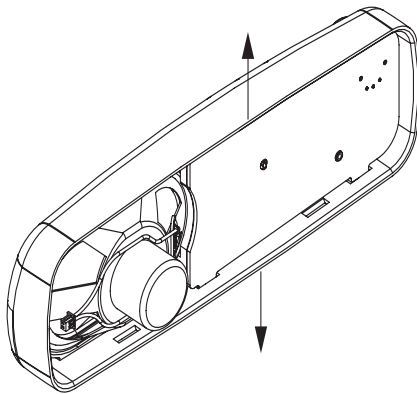
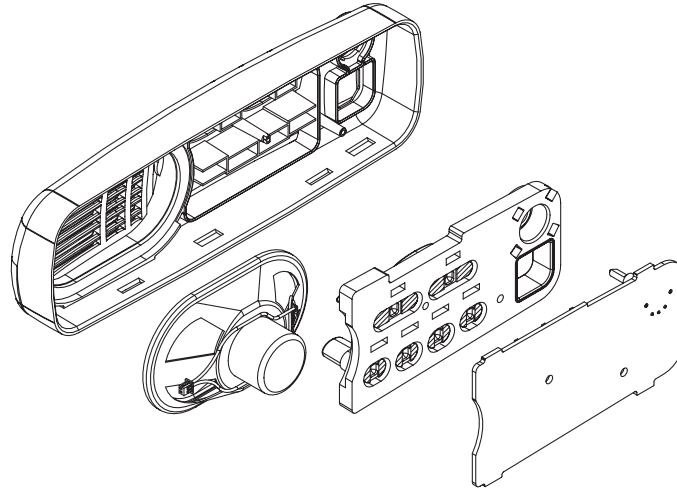

Figure 2-9: Control Head Board Knob Removal
Figure 2-10: Board, Keypad and Speaker Removal
4. Remove the board from the control head housing by stretching the control head housing and pulling up on the board as shown in Figure 2-9 and Figure 2-10.
3. Remove the board from the control head housing by stretching the control head housing and pulling up on the board as described for control head CDM750, Figure 2-10.
1. Locate the speaker in the control head and press it into place as shown in Figure 2-10.